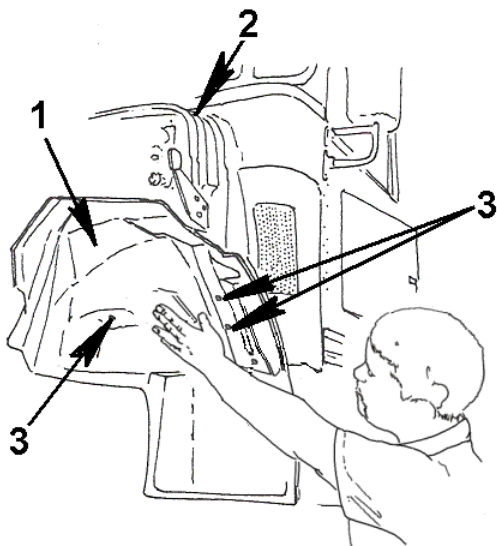

Figure 98 Fender Extension Install
2. Align the fender extension mounting holes on the cowl mounting holes (Figure 98, Item 3),